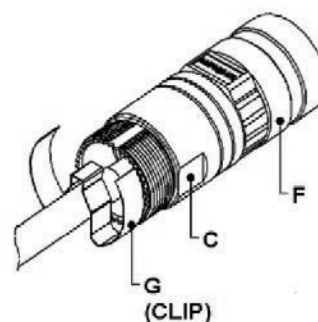

Figure 4
9. Tighten "backshell" (C) to connector (F) as shown in Figure 4. Use a 24mm open ended wrench for the backshell, and a 25mm open ended wrench for the connector. Tighten to a recommended torque of 10Nm.
10. Slide shielding clip (G) over cable jacket as shown in Figure 4.
11. Push shielding clip (G) into backshell (C) until it stops against inside wall as shown in Reference View-B. Clip must be seated over exposed shielding and not over cable jacket.